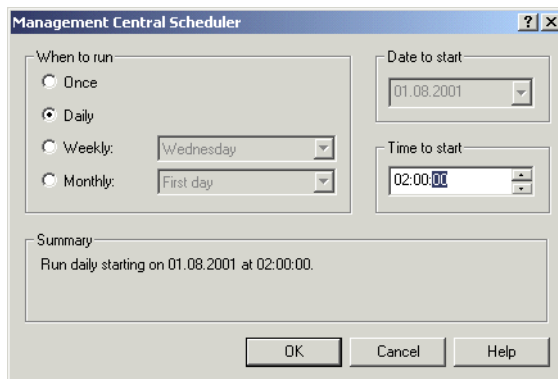

Figure 8-50 Management Central Scheduler display: IOP move to As05b
13. The Management Central Scheduler window now appears as shown in Figure 8-50. Select the **Daily** radio button and change the Time to start field to **02:00**.